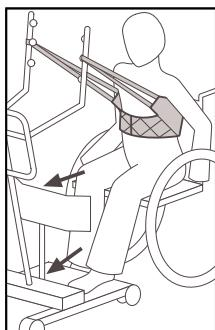

Figure 3
5. Place the clients knees secure against the kneepad and make sure that the feet are positioned well on the footplate. **Figure 3**.